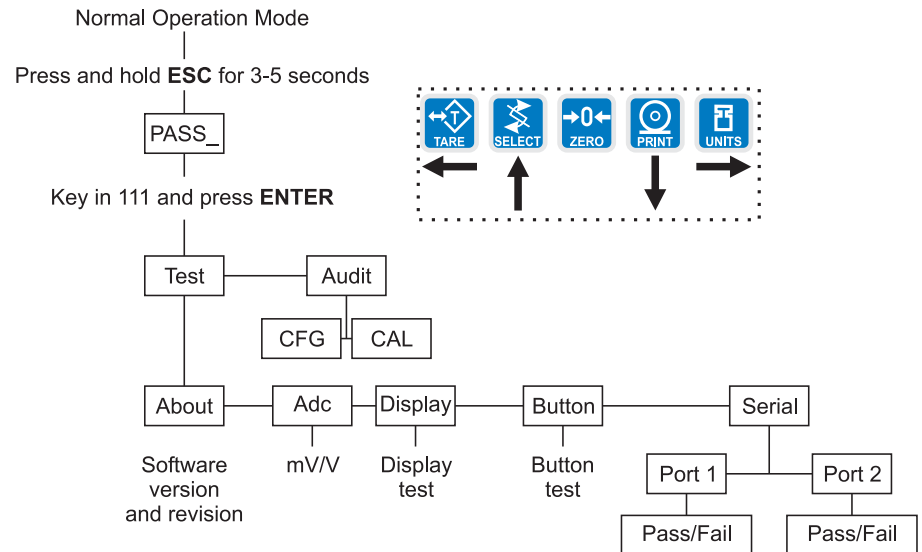

Figure 2
2. Key in the User menu password = 111 and press **ENTER**. Figure 2 shows a flowchart of the User menu items. Use the keys shown in the box in Figure 2 to navigate through the menu and choose the items you want.